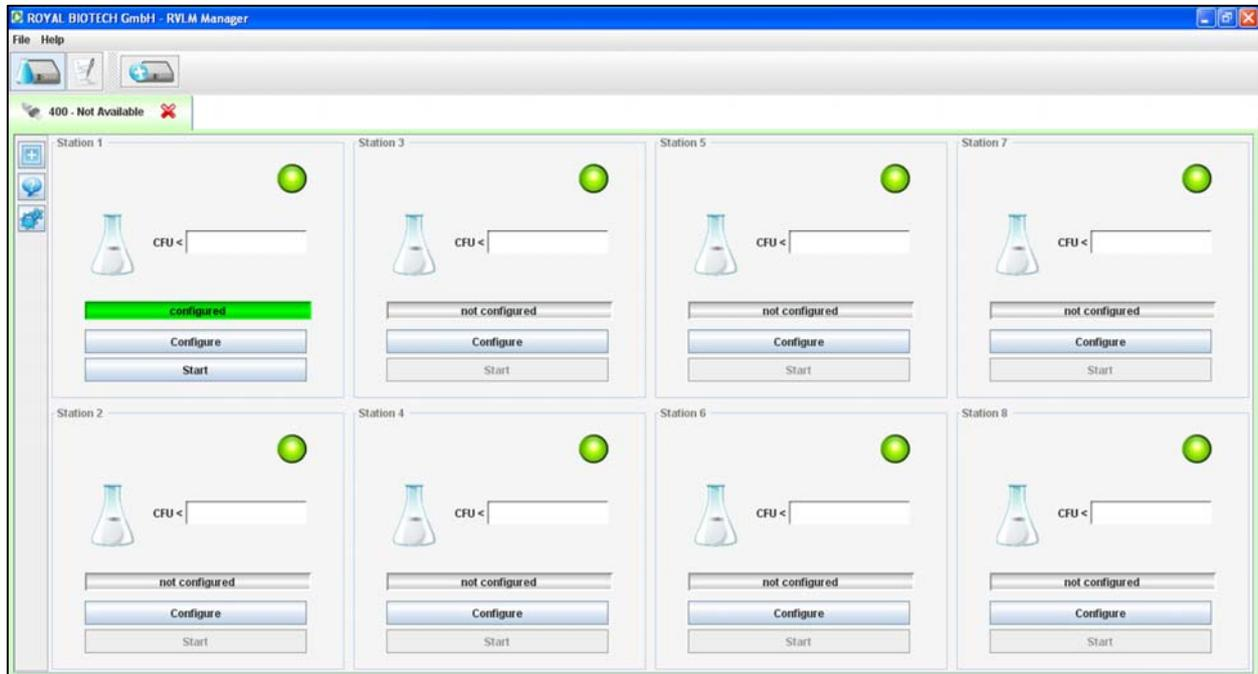

Fig. 13. R – User interface, configured station
- The station is now configured and the message "Configured" will appear on a green box (fig.13).